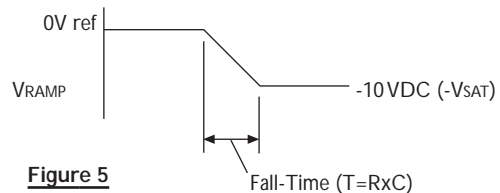

Figure 5
- 8) Verify the "fall-time" of the negative voltage ramp for the transition of switching level states is 90 ± 20 mSec. (See Figure 5 below)